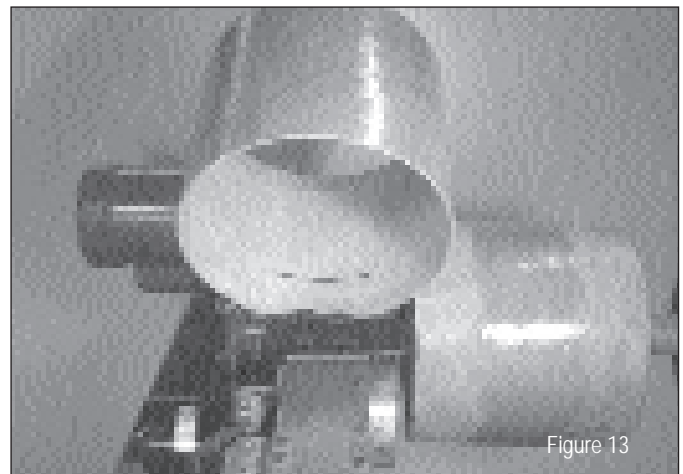

Figure 13
30. Refer to Figure 13. Compare the field taper to the factory taper used to set the tool. Use a factory bell as a gauge. (A sleeve coupling works best.) Slide the bell on the factory spigot that was used to set the tool and tap on lightly. Be sure the taper is seated properly.